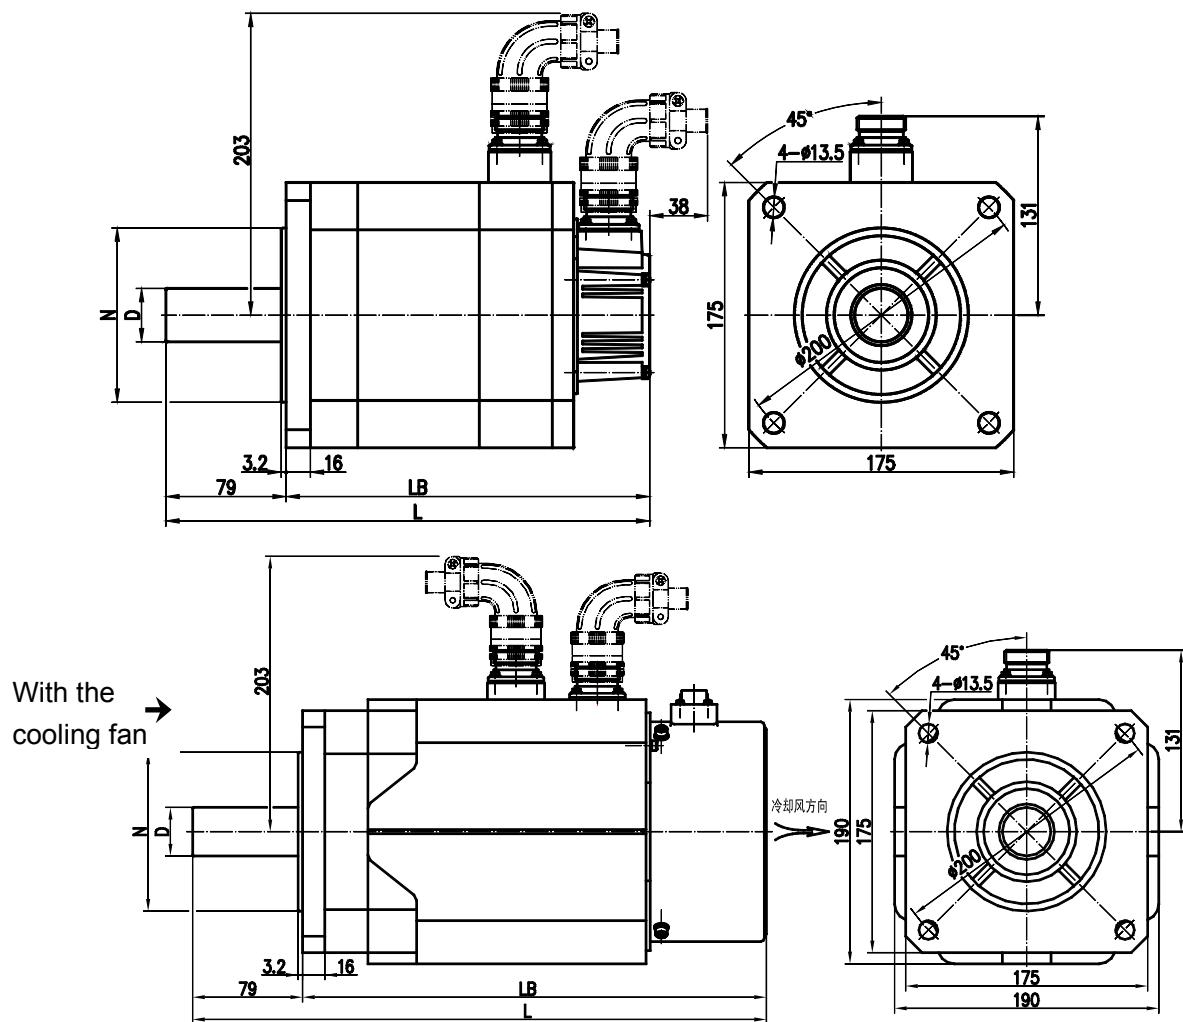

Fig. 4
5.4 Refer to figure 4 and list 9 about 175SJT series motor overall installation dimension.